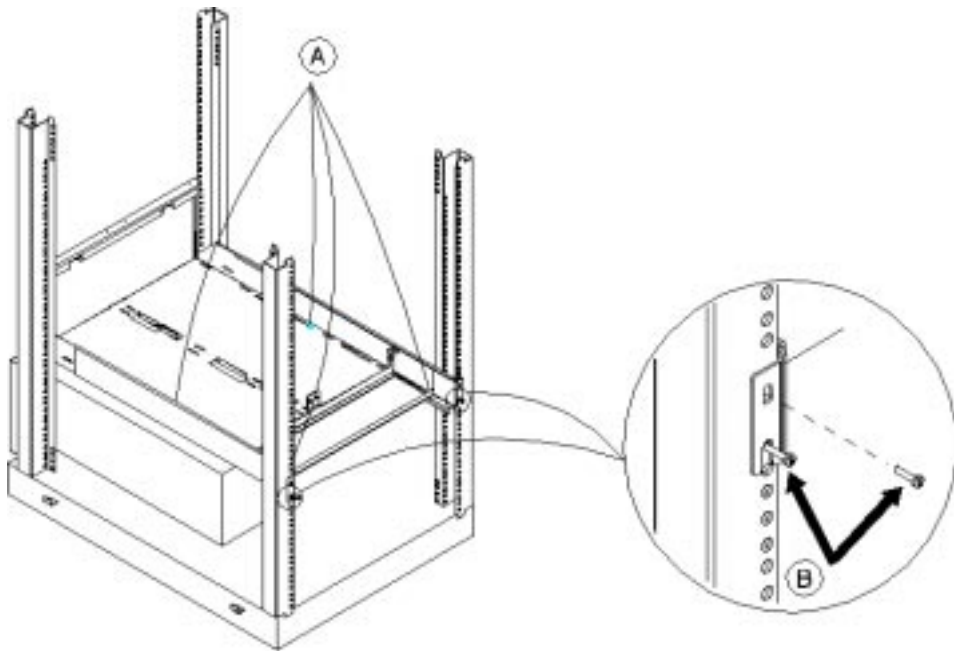

FIGURE 1-5 Tightening the Screws
5. To secure the shelf to the rack, install and tighten two screws (one on each side) into the upper hole on the back of the shelf (FIGURE 1-5).